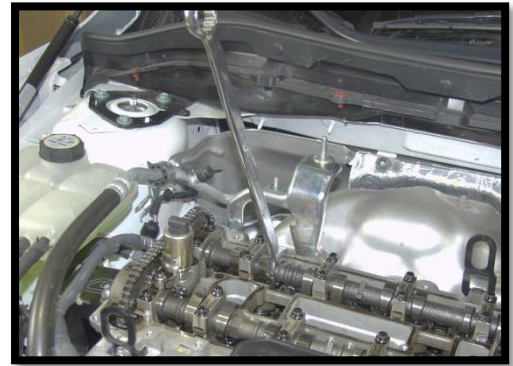

Figure 3k
- k) Place the open end of a 23mm wrench onto the hex portion of the exhaust cam (as shown in Figure 3k). Hold onto the wrench with your right hand.